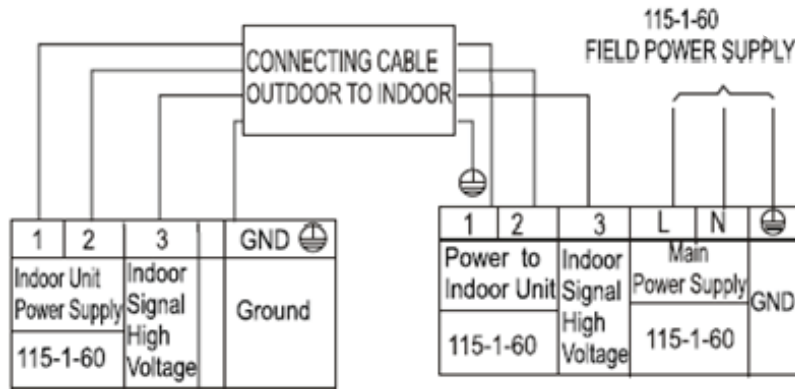

Fig. 3 — Connection Diagram - 12K (115V)
2. All connections between indoor and outdoor units must be as shown in figures 3 - 5. The connections are sensitive to polarity and will result in a fault code.